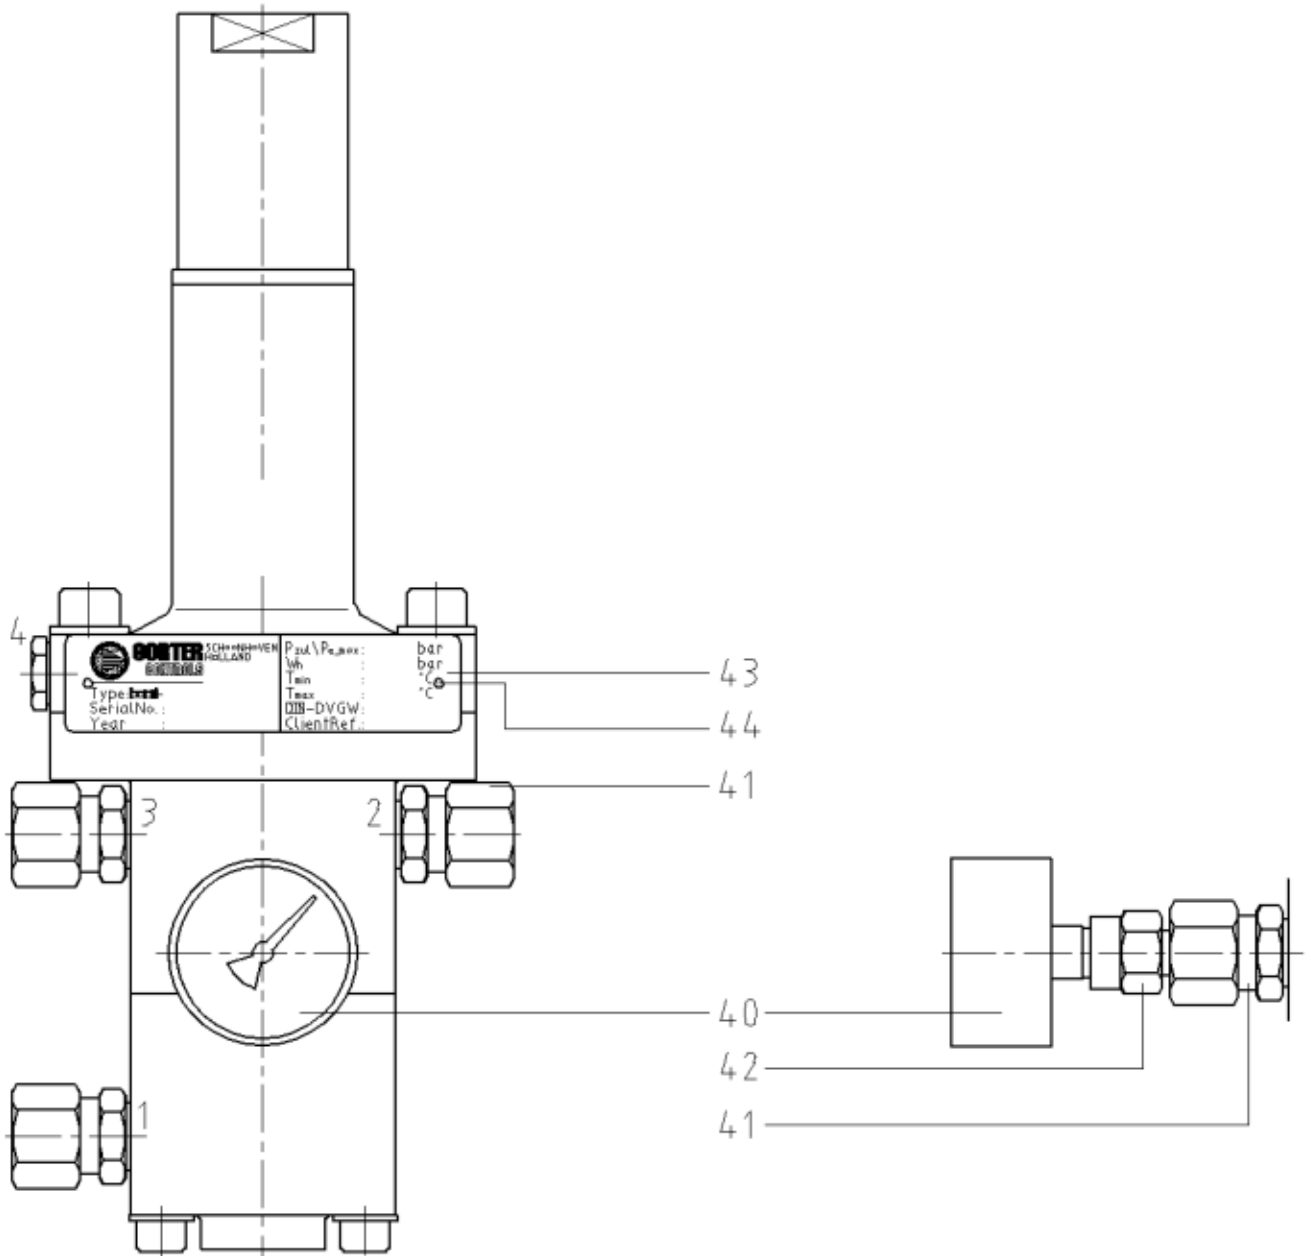

Figure A2: position numbers P095 continued
If a feeding line (instruments air or the medium itself) is available, an off-line tightness test can be done. This feeding line can then be connected to connection 1 of the pilot (see figure A2 for pilot connections). Unscrew the closure nut and ensure that the adjusting screw is completely unscrewed (1).